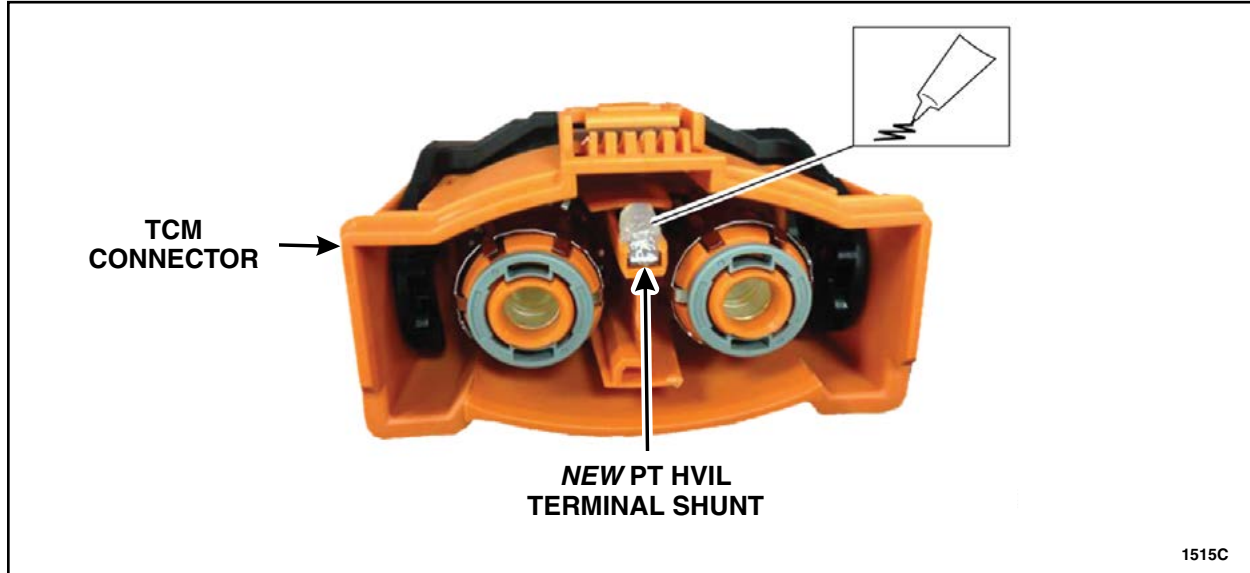

FIGURE 11
10. Using a lint free cloth, lightly wipe all surfaces of the shunt after installation. Apply Motorcraft Electrical Grease XG-12 to the *new* PT HVIL Terminal Shunt. See Figure 11.